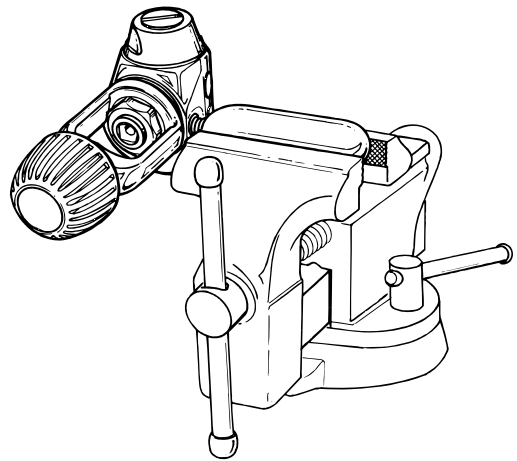

Fig. 1
3. Secure the vise mounting tool inside a bench vise so that the first stage is positioned standing vertical outside the vice with the spring retainer and adjustment screw facing straight up. (See Fig. 1.)
- 4b. Remove the external diaphragm(35) from either the diaphragm retainer or the spring retainer(32). Discard the diaphragm, and do not attempt to reuse.
- 4c. Remove the environmental piston(33), and inspect it closely to check for any signs of stress or other damage. Discard the piston if it is found to be damaged, or set it aside if it is in reusable condition. Replace the decal(34) as needed.